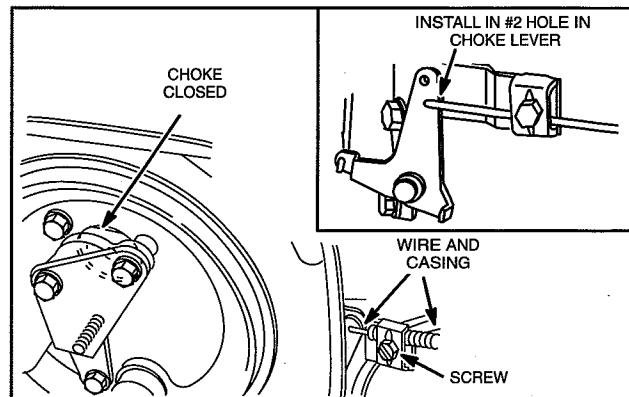

Fig. 6 – Choke Adjustment
4. Tighten casing clamp screw, Fig. 6.